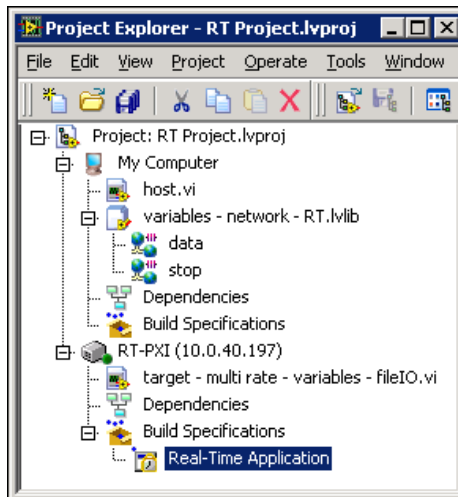

Figure 9. Creating a Build Specification
6. Click the **OK** button to accept the settings and close the **Real-Time Application Properties** dialog box. The build specification name appears in the **Project Explorer** window under **Build Specifications** for the RT target, as shown in Figure 9.